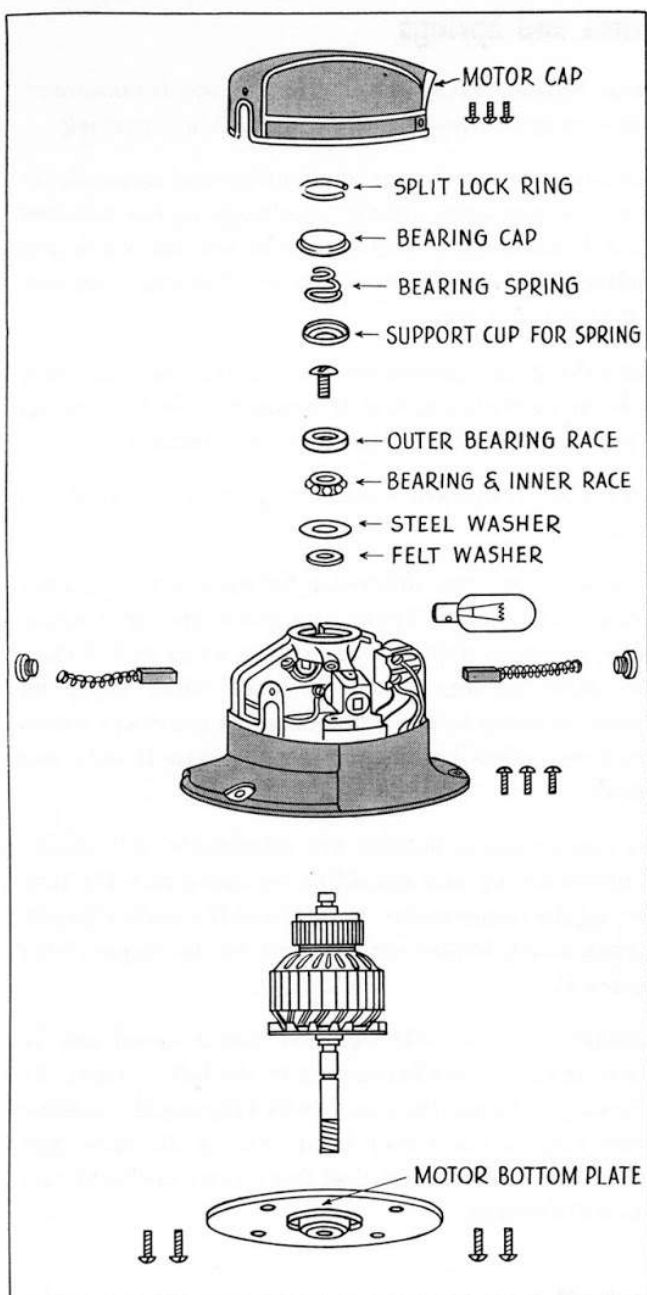

FIG. 38
2. Figure 38 illustrates a motor having a one-piece motor casing and a *separate* motor bottom plate.